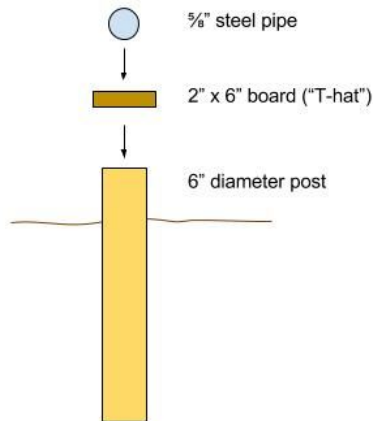

Figure 2: Front-view of full track assembly ("T-bar" not shown)
- 1.4. 2" x 6" boards are then secured along the tops of the posts, forming the "T-hat" (Figure 2).
- 1.5. 5/8" galvanized steel pipe is then fastened to the top of the "T-hat" (Figure 2)